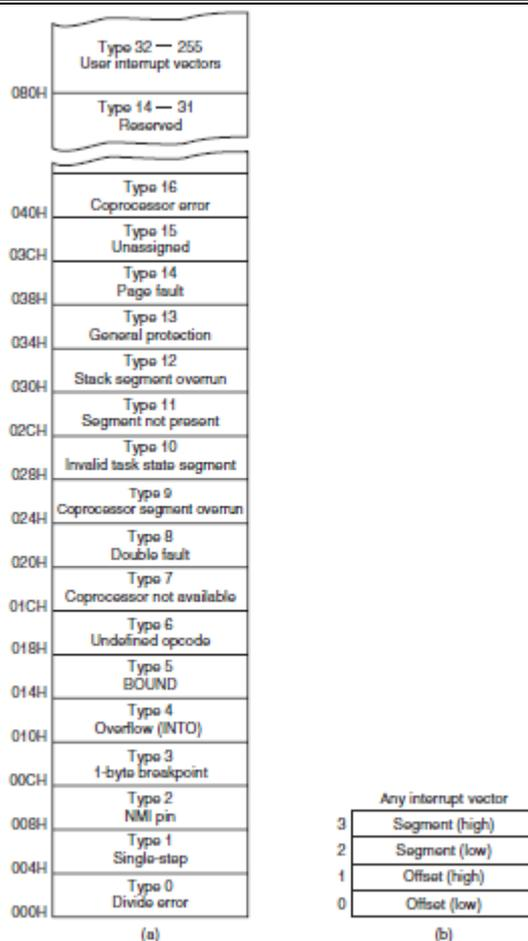

Figure 12-2: a) interrupt vector table b) contents of an interrupt vector
- the result from a division overflows. (Figure 12-2)